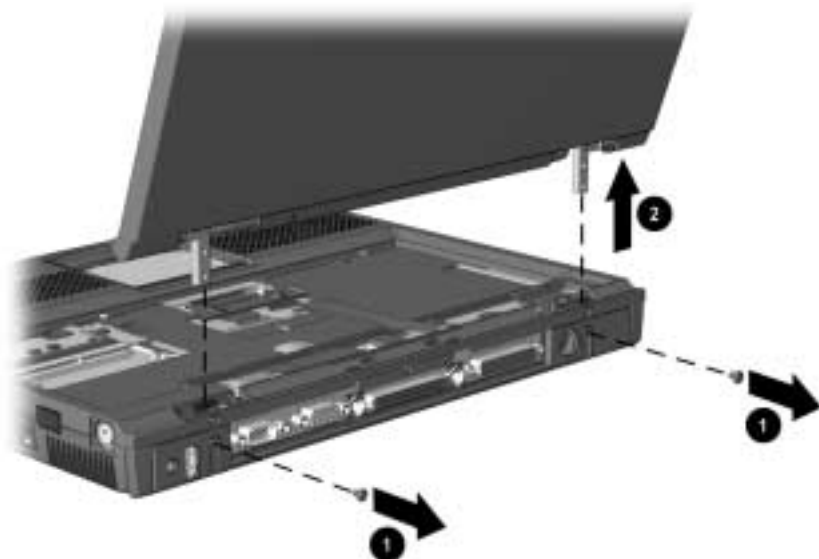

Figure 5-15. *Removing the Display Assembly*
13. Remove the two screws that secure the display assembly to the base enclosure ❶ (Figure 5-15).